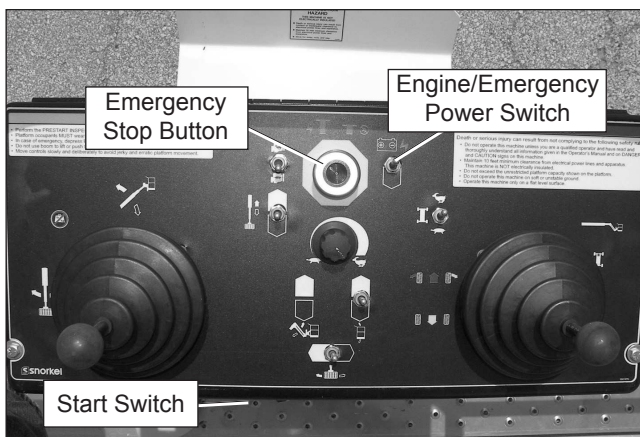

Figure 7.23 – Upper Controls
3. At the upper controls (refer to Figure 7.23), pull the emergency stop button outward.